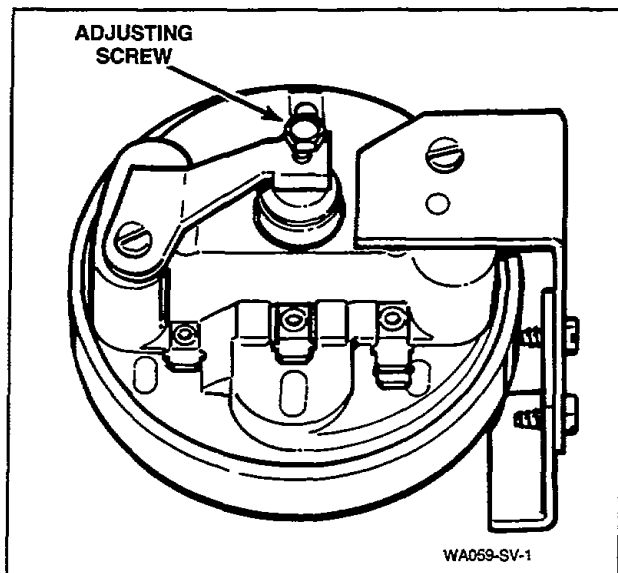

Figure 54
40. PRESSURE SWITCH (Refer to *Figure 54*)